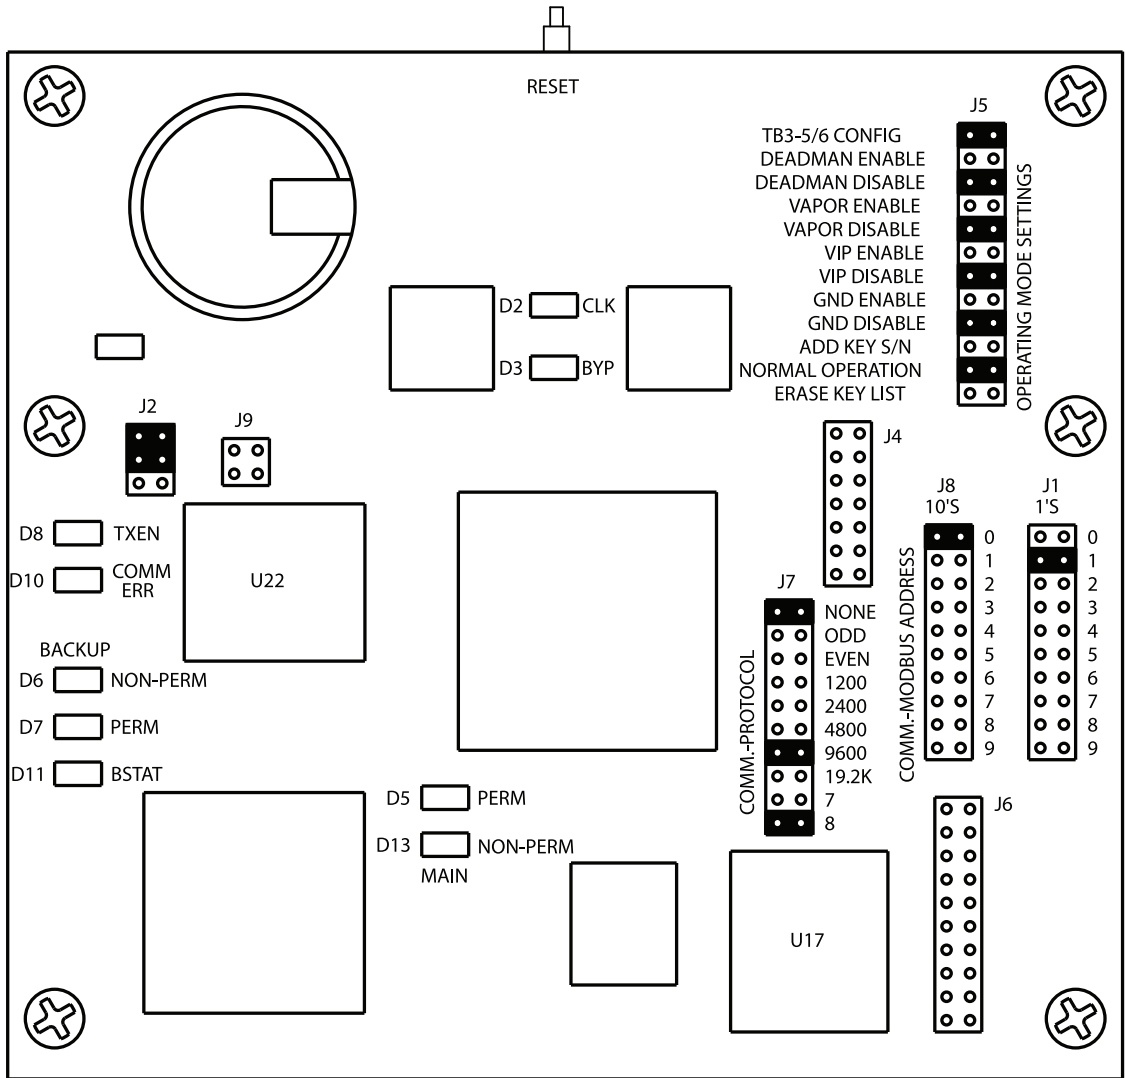

Figure 5: CPU Board Layout
2. Move the "Normal Operation" jumper on J5 to the "Add Key S/N" position (refer to Figure 5: CPU Board Layout).
2. *Move the "Normal Operation" jumper J5 to the "ERASE KEY LIST" position (refer to Figure 5: CPU Board Layout).*